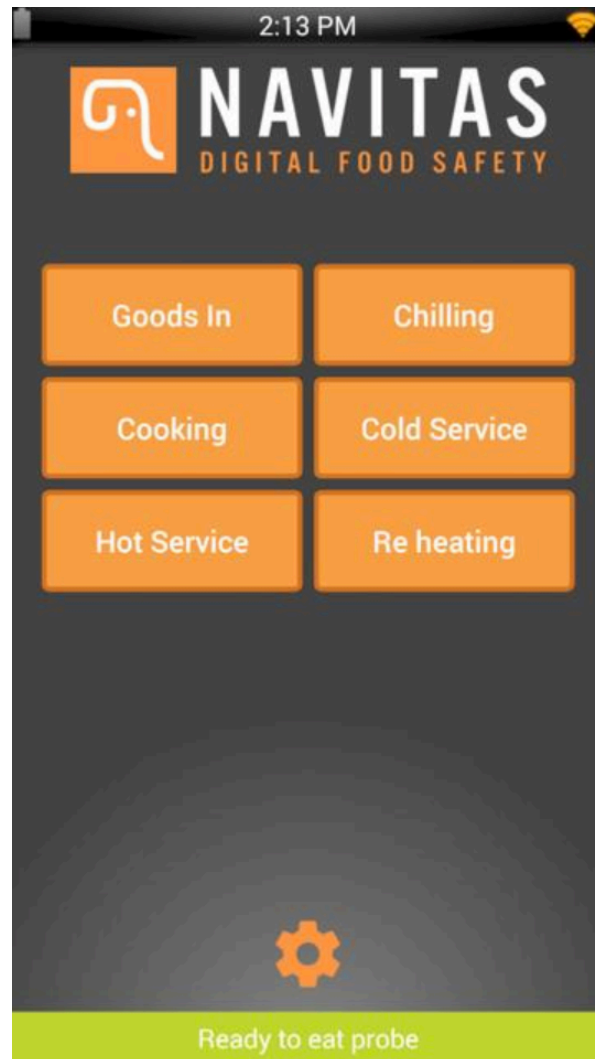

Fig. 24 – Food Service selection screen.
1. Select the chilling service (see Fig. 24).